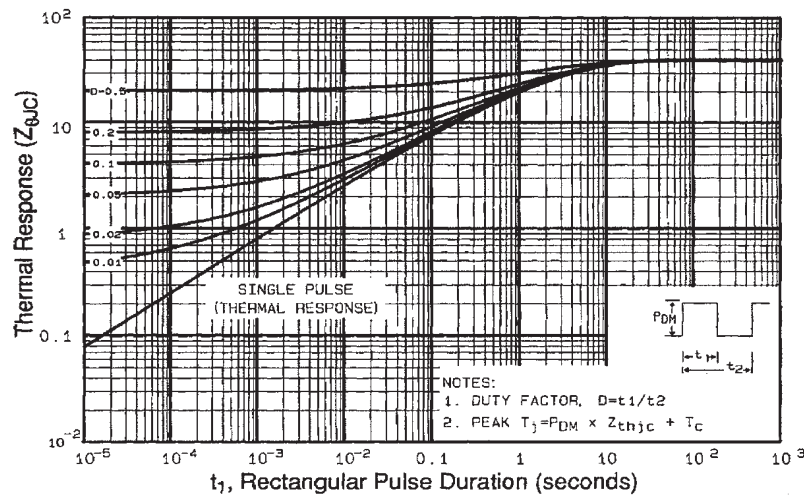

Fig 11. Maximum Effective Transient Thermal Impedance, Junction-to-Case
① Repetitive rating; pulse width limited by max. junction temperature. (See fig. 11)
② $V_{DD} = 25V$, starting $T_J = 25^\circ\text{C}$, $L = 25mH$